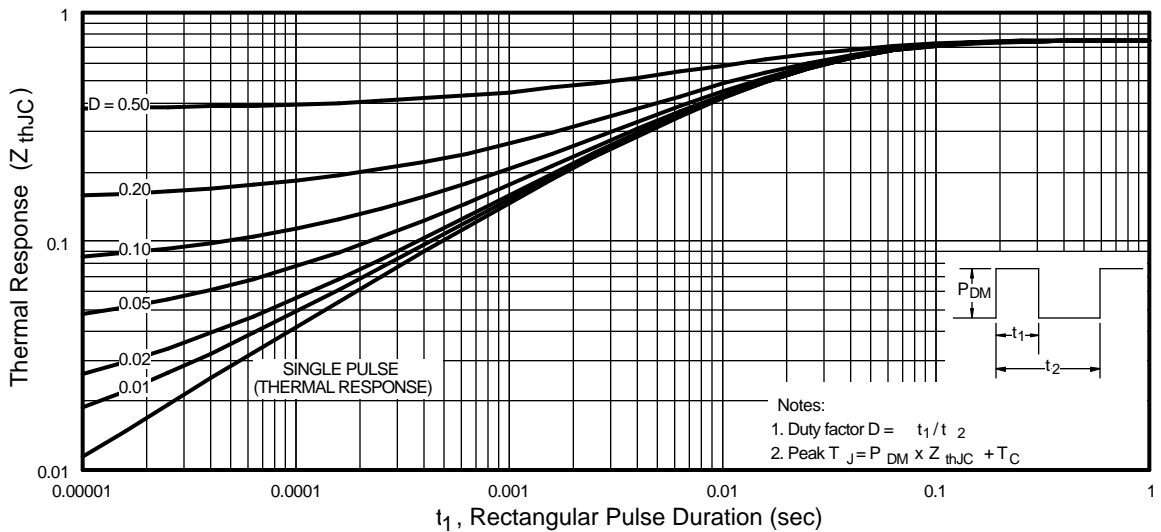

Fig 11. Maximum Effective Transient Thermal Impedance, Junction-to-Case
- ① Repetitive rating; pulse width limited by max. junction temperature. (See fig. 11)
- ② $V_{DD} = 25V$, starting $T_J = 25^\circ\text{C}$, $L = 190\mu H$